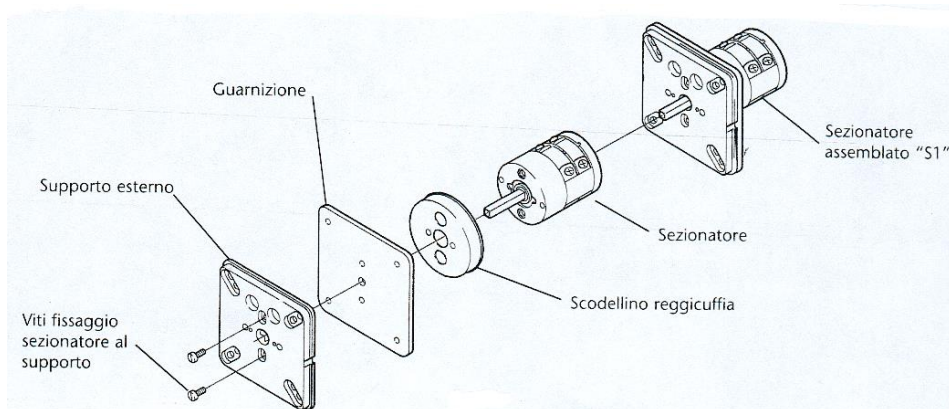

fig. 67
4. Assemble the isolator switch as in fig. 67, assembling the components 1-2-3-4-5.